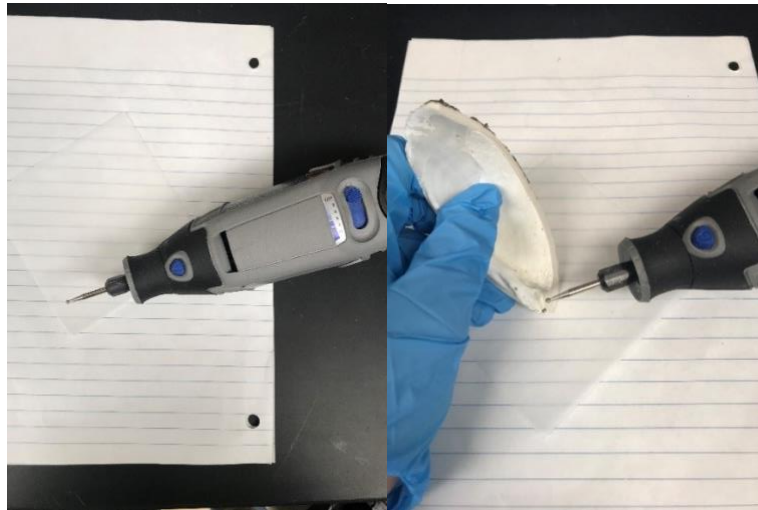

Figure 4: Dremeling the C14 collection from the shell.
10. Take the shell half without the origin and hold over weighting paper centered on the blank paper. Put the tip of Dremel on shell hinge and grind the center of the hinge over weighting paper (Figure 4). Remember to avoid blowing the “dust” off the paper by blocking the Dremel fan when holding the tool in your hand.